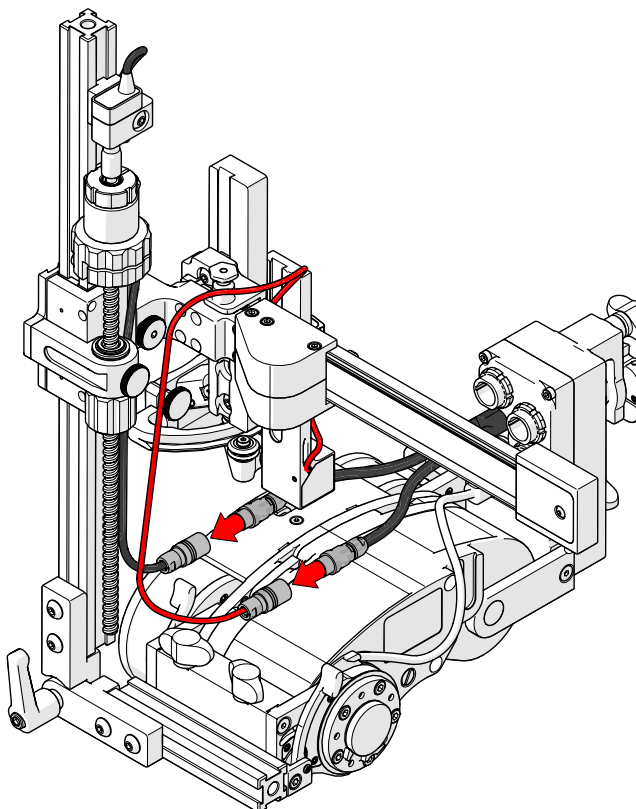

Fig. 216 - Connect encoder cables to 3-axis encoder cable
14. Using the cable clips, route the encoder cable from the slider pps to the 3-axis encoder cable (Fig. 216).
15. Using the cable clips, route the encoder cable from the probe holder to the 3-axis encoder cable (Fig. 216).
cables into the 3-axis encoder cable connectors (Fig. 216).